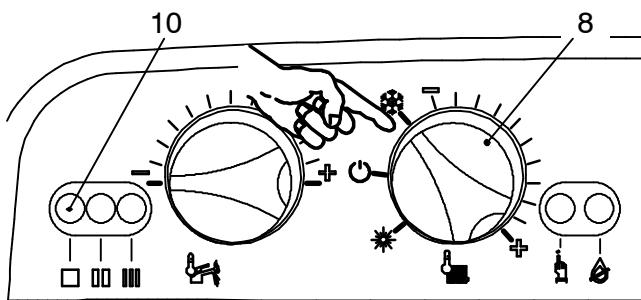
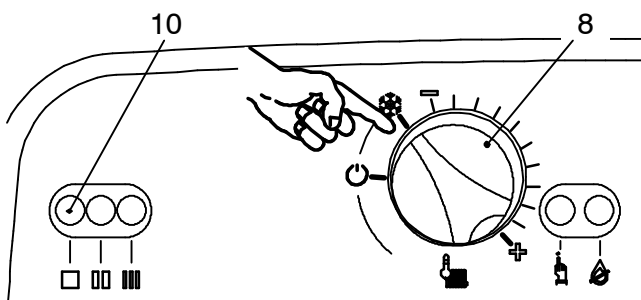

Fig. 2.4
Fig. 2.5
- 2 Turn on the electricity supply to the boiler, switching on the fused spur isolation switch. The appliance operation light 10 (Fig. 2.4) will flash every 4 seconds (stand-by condition).
- 3 If the boiler is to be used for c.h. and d.h.w. position the function selector 8 as in Fig. 2.4 (combi) or in Fig. 2.5 (c.h. only). The appliance operation light 10 will flash every 2 seconds (operating boiler).